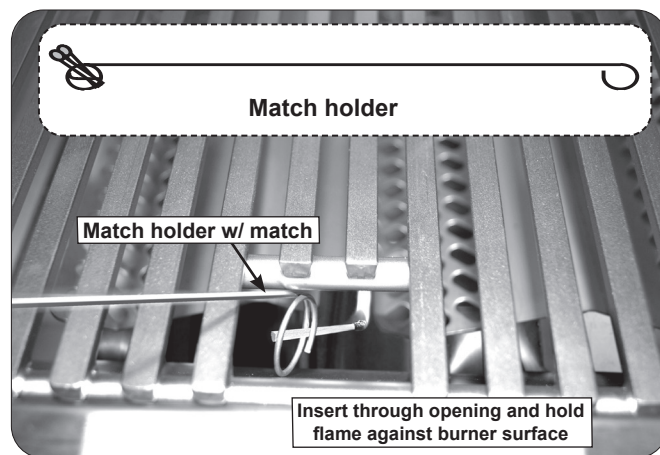

Fig. 31-2 Manual lighting
2. Insert either a burning long-barrel butane lighter, a burning long-stem match, or a burning match held by a wire extension holder through the cooking grids to the burner (Fig. 31-2).